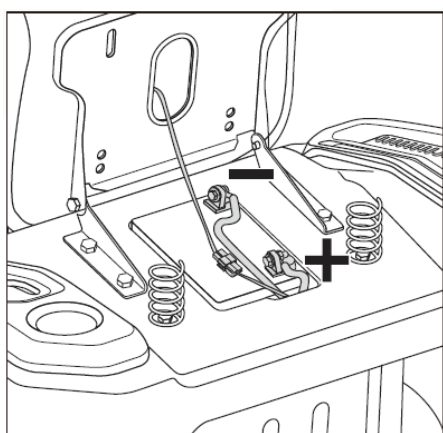

Fig.10
2. Attach the negative cable (black) to the negative battery terminal using the bolt and nut.(Fig.10)